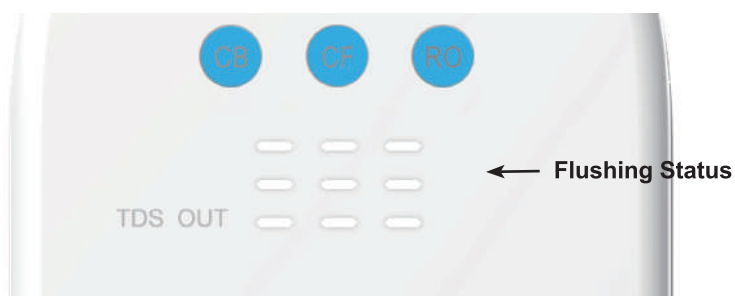

Figure 32
**NOTE:** The display screen will show the flushing status (Figure 32) during the process.
To maintain and extend the life expectancy of the filters, the system will be automatically flushed for 20 seconds after working for two hours. While flushing, the front panel screen will show a display similar to what is in Figure 32. If the user decides to take water during the flushing, the system will quit flushing and switch to dispensing.
When power is restored after a blackout, the system will be forced to flush automatically for 20 seconds. While flushing, the front panel screen will display as seen in Figure 32. The blue, yellow, and red lights will flash in turn for one second, and then the blue light will be on for 20 seconds. The indicators will be off when the flushing is complete.
Recycled fresh water flushing function is to ensure each cup of water to be fresh and healthy. The system will automatically recycle fresh water and flush after it has dispensed water. When the system is recycling fresh water and flushing, the panel displays as shown in figure 32.